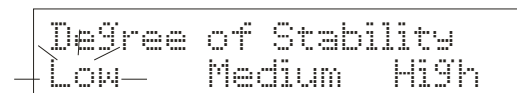

Figure 96
6. If you selected **On** in step 5, the display now reads *Degree of Stability: Low Medium High*. Press  $>/CAL$  to toggle between *Low*, *Medium* and *High*. The selection will flash. See **Figure 96**.